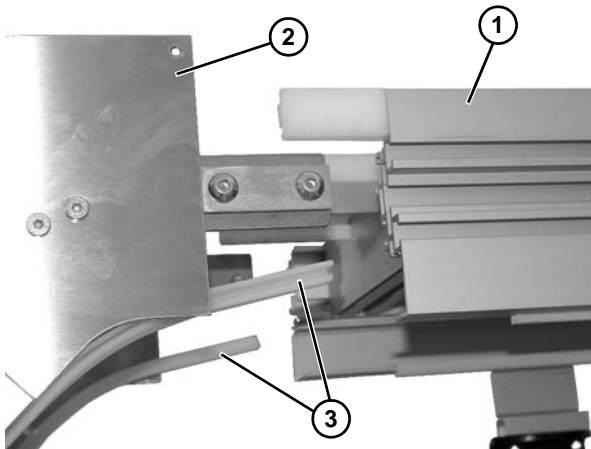

Figure 108
5. Remove upper frame (**Figure 108, item 1**) from upper knuckle (**Figure 108, item 2**) and off of wearstrips (**Figure 108, item 3**).